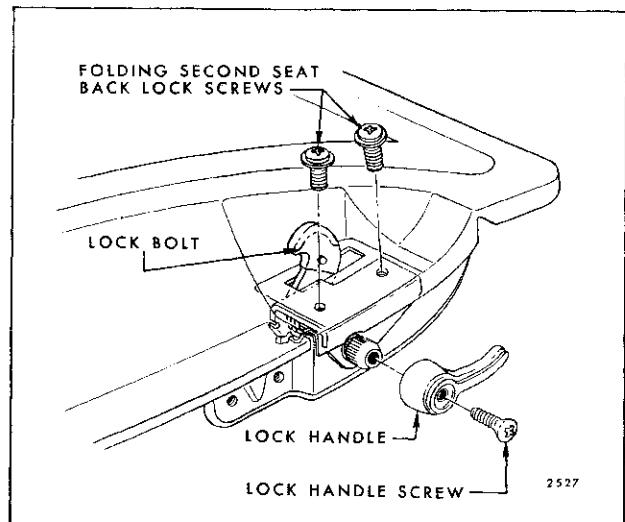

Fig. 15-70—Folding Second Seat Back Lock Installation — All "A & B" Station Wagons (Except "A-65" Styles)
- Remove seat back lock handle attaching screw (Fig. 15-70) and remove lock handle.
- Remove seat back lock attaching screws (Fig. 15-70) and remove seat back lock from seat back panel.